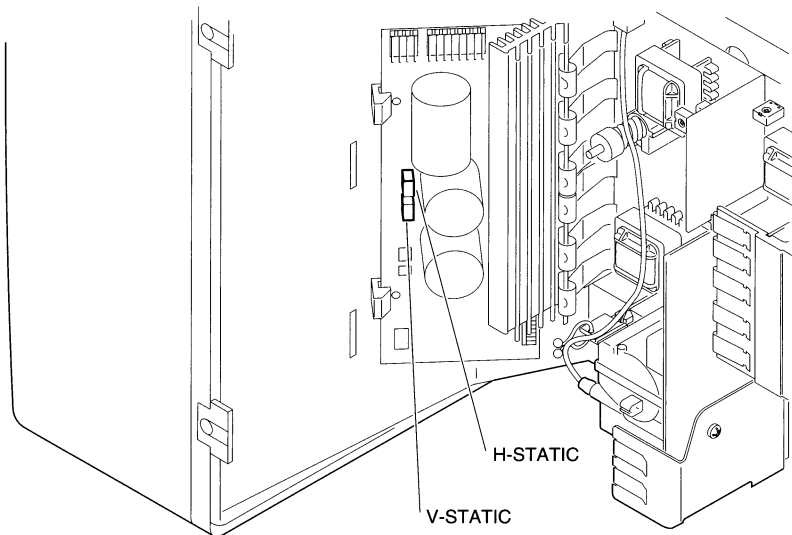

Figure 14 H-STATIC and V-STATIC Controls
2. FIGURE 14. Adjust the H-STATIC control on the magnetometer degauss board until the red and blue vertical lines in the center of the crosshair pattern are aligned as precisely as possible.
1. FIGURE 14. Adjust the V-STATIC control on the magnetometer degauss board until the red and blue horizontal lines in the center of the crosshair pattern are aligned as precisely as possible.